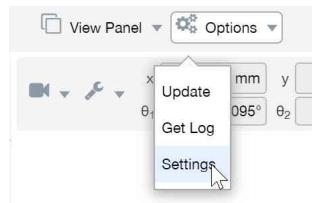

Figure 7: Options dropdown menu
1. Click on the Options dropdown menu and then on Settings (Fig. 7).
Before you continue to read any further, make sure that you have the latest firmware installed on the robot and that you read the manuals corresponding to that firmware. Go to the Downloads section of our web site and download the latest firmware (a zip file). Unzip it. Then, once you have followed the procedures of Chapter 4, and before activating the WebSocket/TCP connection on port 10,000 (i.e., before selecting the  checkbox) and activating the robot, click on Update in the Options menu in the web interface (Fig. 7). A new interface will load in the same browser tab. Click on Choose File and select the file with the extension *.update that you just extracted. Then click on the Upload button. Wait a couple of minutes for the update to be completed. Once completed, the robot will reboot and the new web interface will reload.